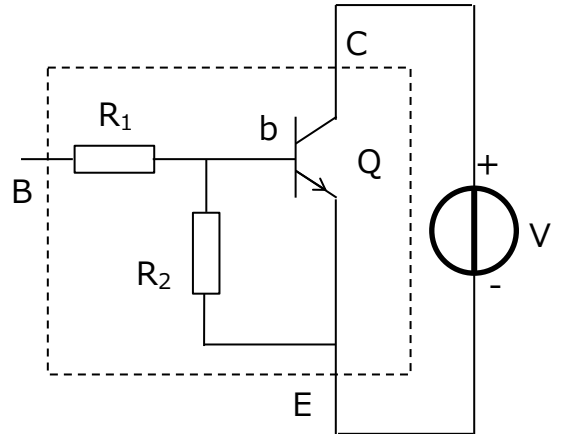

Figure 4-2 I_{CEO}
Voltage is applied across the collector (C) and emitter (E) terminals with the base (B) terminal open-circuited as shown in Figure 4-2. The pn junction between the collector (C) and base (b) is reverse-biased whereas the pn junction between the base (b) and emitter (E) is forward-biased. As described in Section 3.3, "Collector-emitter voltage (V_{CEO})," the leakage current flowing between C and b is amplified, producing collector cut-off current (I_{CEO}).